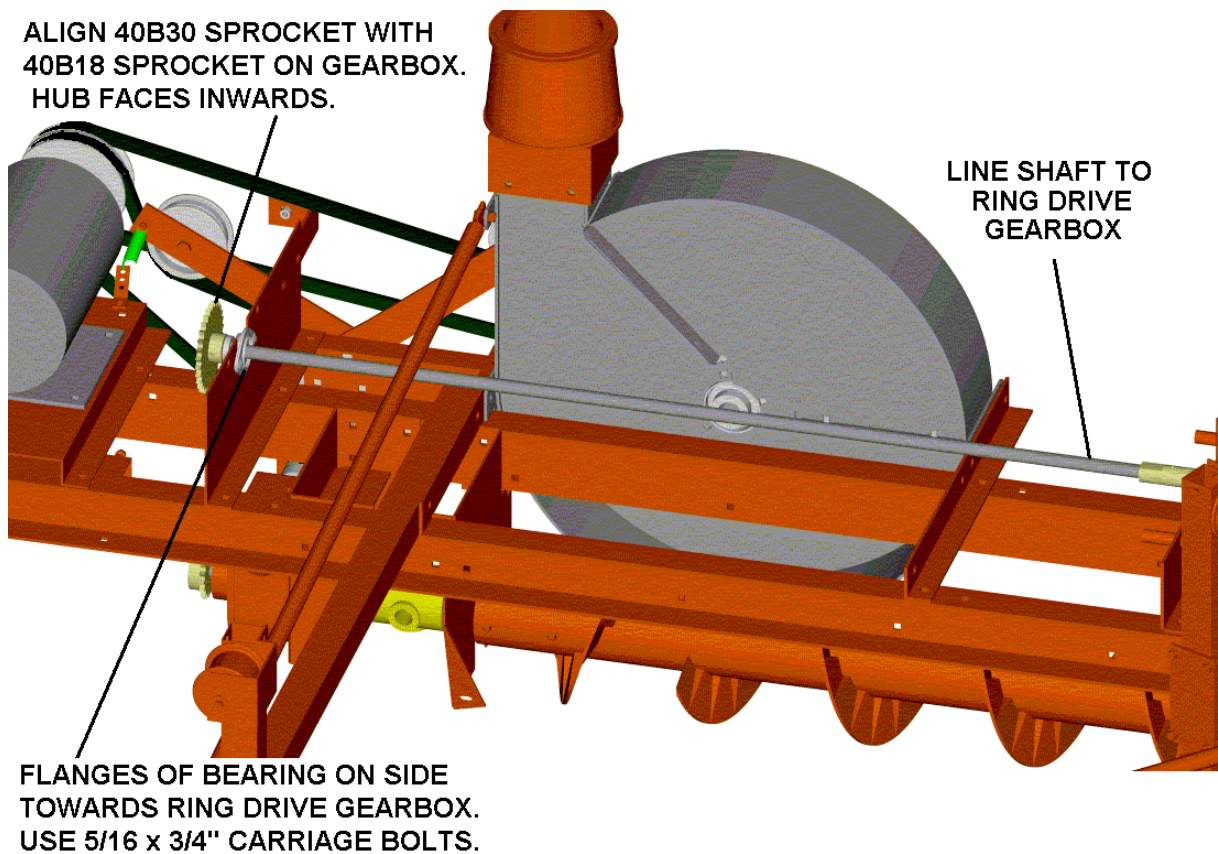

FIGURE 28
2. Position the flange bearing in the slot on the line shaft bearing bracket with the flanges on the side nearest the ring drive gearbox and bolt to the bracket with (2) 5/16" x 3/4" carriage bolts and whiz nuts. **DO NOT TIGHTEN AT THIS TIME.** See Figure 28.
3. Assemble a 40B30 sprocket on the end of the line shaft and align with the sprocket on the auger gearbox below. Hub should point towards the ring drive gearbox as shown in Figure 28.
4. Assemble roller chain around the (2) sprockets and tighten chain by raising the bearing in the slots of the bearing bracket. Tighten bolts. The chain guard attaches to the motor side of this bracket with (2) carriage bolts and whiz nuts.